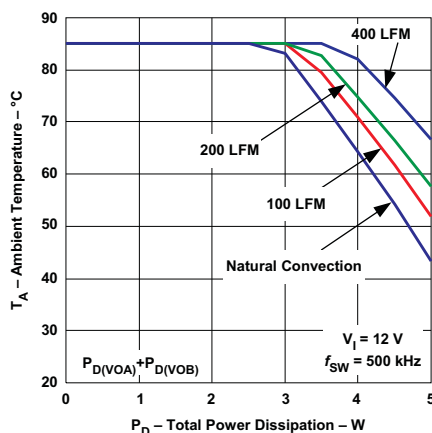
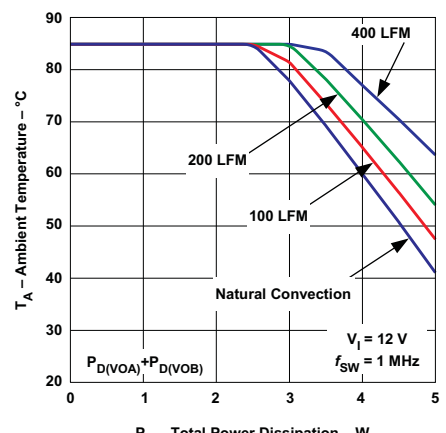

Figure 7. Safe Operating Area
Figure 9. Safe Operating Area
- The temperature derating curves (Figure 7 through Figure 9) represent the conditions at which internal components are at or below the manufacturer's maximum operating temperatures. Derating limits apply to modules soldered directly to a 100-mm x 100-mm, double-sided PCB with 2-oz. copper. See the Safe Operating Area application section of this datasheet.